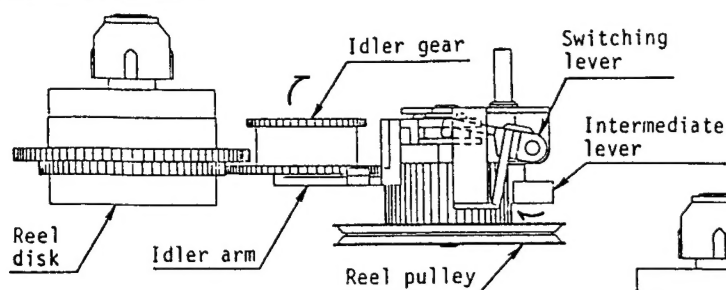

Figure 1-4. Gear Engagement in Fast Forward and Rewind Operations
- 5) In the fast forward and rewind modes, the large idler gear engages with the small gear of the reel disk, not through the torque limiter built in the reel disk. They work as a simple gear mechanism to transfer the revolving motion to the reel disk. (Figure 1-4.)